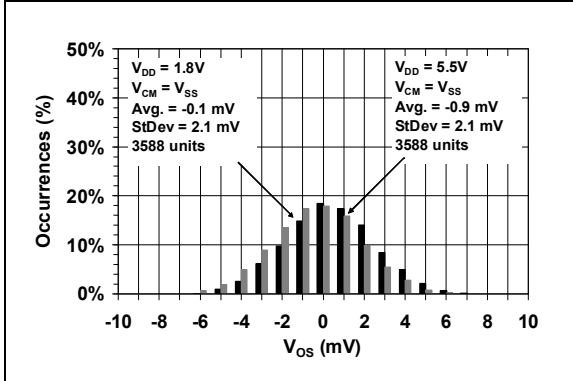

**FIGURE 1-1:** AC and DC Test Circuit for the Open-Drain Output Comparators.
**Electrical Characteristics:** Unless otherwise indicated:  $V_{DD} = +1.8V$  to  $+5.5V$ ,  $V_{SS} = GND$ ,  $T_A = +25^{\circ}C$ ,  $V_{IN+} = V_{DD}/2$ ,  $V_{IN-} = V_{SS}$ , and  $R_{PULL-UP} = 20$  k $\Omega$  to  $V_{PU} = V_{DD}$  (see Figure 1-1).
**Electrical Characteristics:** Unless otherwise indicated,  $V_{DD} = +1.8V$  to  $+5.5V$ ,  $V_{SS} = GND$ ,  $T_A = +25^\circ C$ ,  $V_{IN+} = V_{DD}/2$ ,  $V_{IN-} = V_{SS}$ ,  $R_{PULL-UP} = 20\text{ k}\Omega$  to  $V_{PU} = V_{DD}$ , and  $C_L = 25\text{ pf}$  (see Figure 1-1).